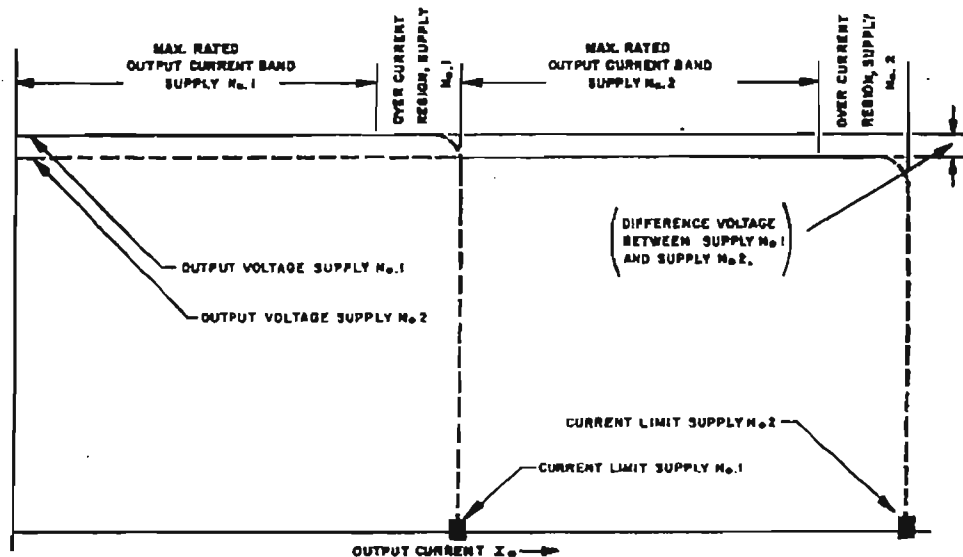

FIG. 3-12 "AUTOMATIC" PARALLEL OPERATION (TWO SUPPLIES).
**NOTE:** The diagram below (refer to FIG. 3-12) shows how the two power supplies operate in the parallel mode. As seen from FIG. 3-12, load variations should be confined within the stabilization region of SUPPLY #2 since there is an initial adjustment error ( $\Delta E_O$ ) between the two supplies.